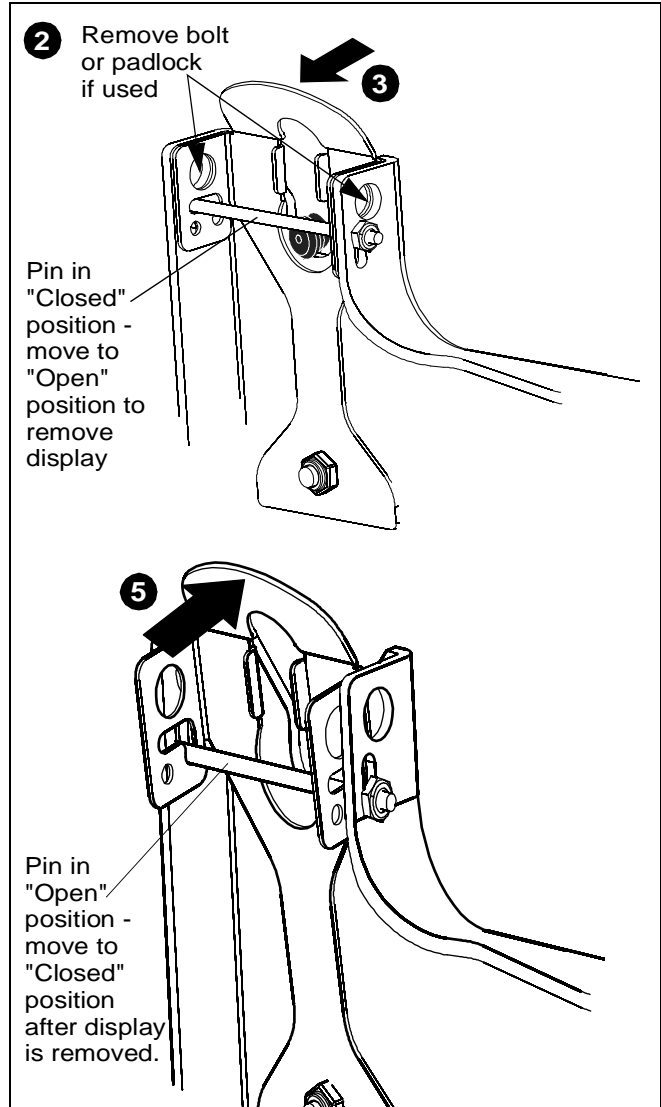

Figure 5
2. Remove bolt or padlock from faceplate (if used). (See Figure 5)
3. Pull back on flag on upper mounting hole and press pin down down into "Open" position. (See Figure 5)
5. Lift up on pin and place flag back against faceplate to return it to "Closed" position. (See Figure 5)